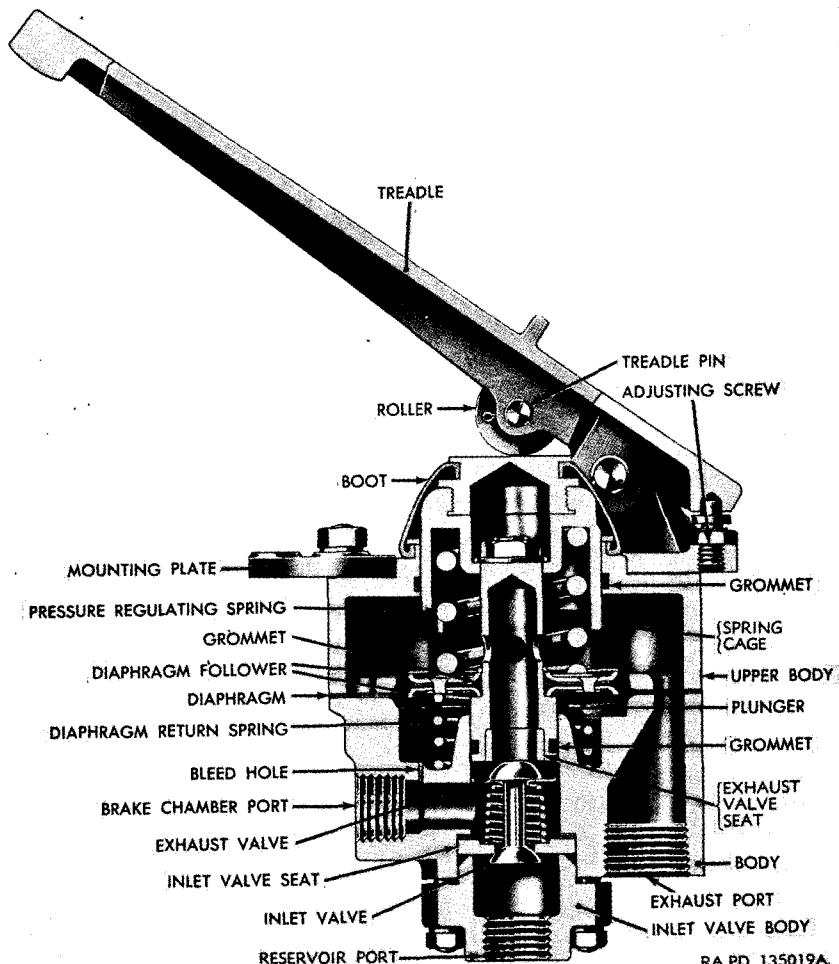

Figure 98. Sectional view of type D-1 brake valve.
b. Operation (fig. 98).
(1) As the treadle is depressed, pressure is exerted on the top of the pressure-regulating spring and diaphragm. As the diaphragm moves downward, the exhaust valve seat moves downward against the exhaust valve and closes it. Continued movement of the diaphragm downward pushes the inlet valve off its seat. Air pressure from the reservoir then flows through the inlet valve and out the brake chamber ports to the brake chambers, applying the brakes. This air pressure also enters the cavity below the diaphragm through the bleed hole.